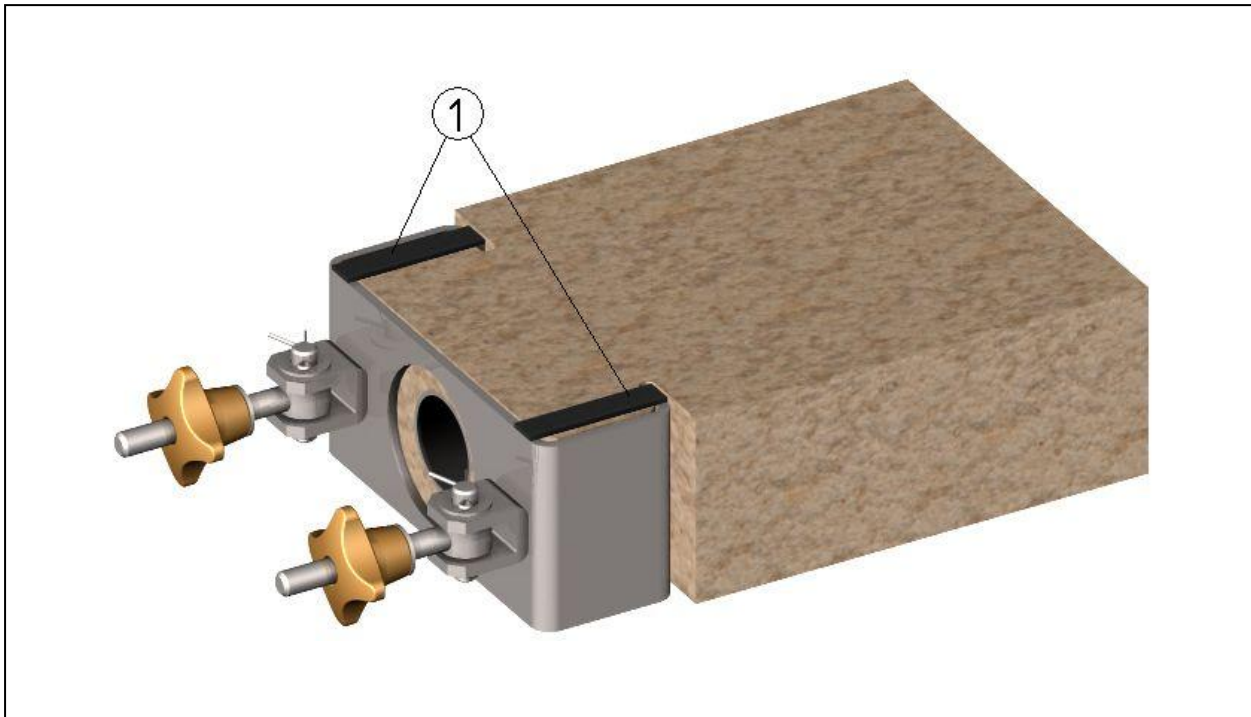

Figure 3
A metallic stop (1) permits to maintain the bracket adapter on the refractory block as described on the figure 3 .